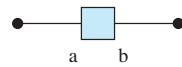

FIGURE P2.13 Image for Problem 2.13.
- 2.13** (B) The voltage across the device in Figure P2.13 is 1 V. What is the voltage polarity of Nodes a and b if the potential energy is reduced when a positive charge moves from a to b.